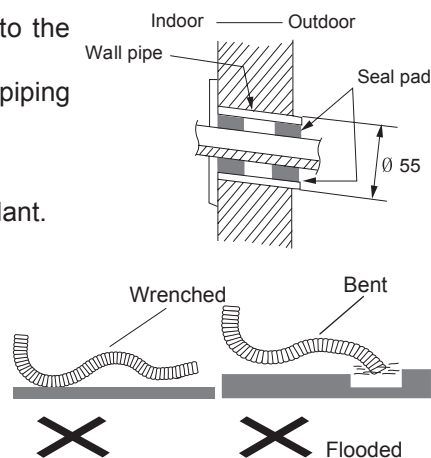

Fig.6
(1) For well draining, the drain hose should be placed at a downward slant.
(2) Do not wrench or bend the drain hose or flood its end by water. (As show in Fig.6)
(3) When the long drainage hose passing through indoor, should wrap the insulation materials.